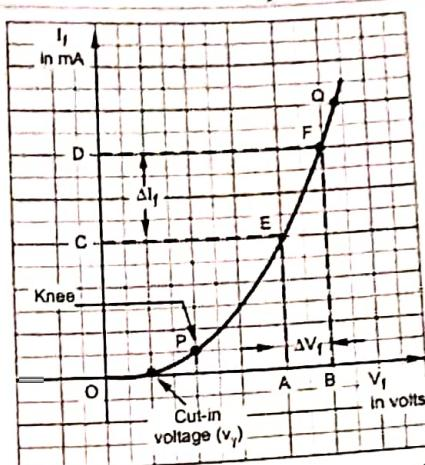

Fig. Q.6.1 Forward characteristics of a diode
- The forward characteristics of a diode is shown in the Fig. Q.6.1.
- Region P to Q and onwards : When V_f exceeds v_f i.e. cut-in voltage, the depletion region becomes very thin and current I_f increases suddenly. This increase in the current is exponential as shown in the Fig. Q.6.1 by the region P to Q.